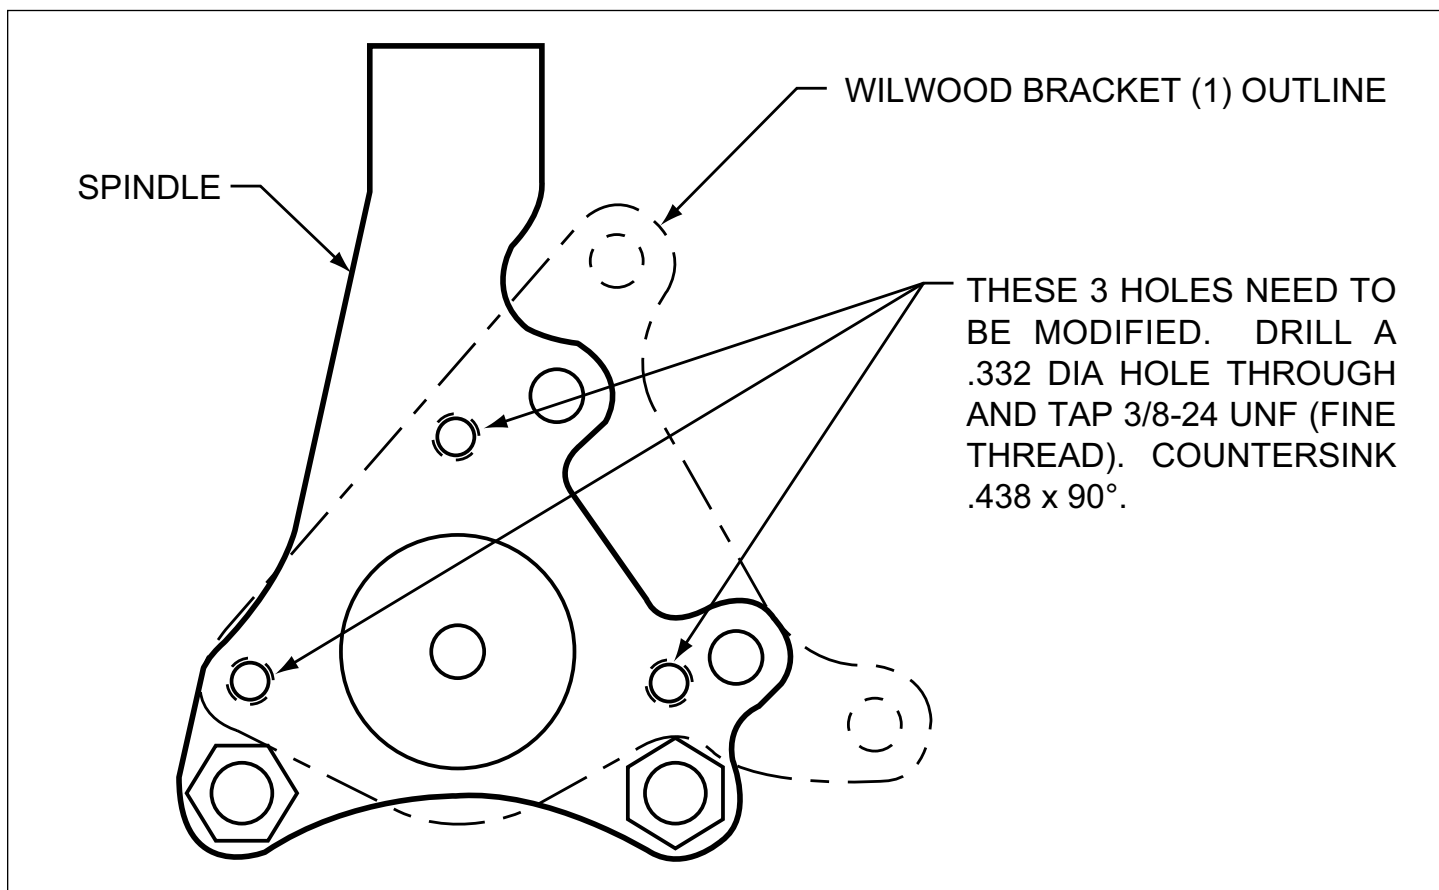

Figure 1. Steering Arm / Spindle Modifications
These modifications should be performed by a qualified machinist. Refer to Figure 1 as necessary (numbers in parenthesis refer to the parts list on page four). Only one view of the steering arm/spindle is shown, but the modifications need to be performed on both steering arm/spindles.
NOTE: Numbers in parenthesis refer to the parts list and Figure 1 on the preceding pages.
- Mount the adapter/rotor assembly (7/8) to the hub (4) using bolts (10) (finger tight), as shown in Figure 1. Using an alternating sequence, remove bolts one at a time, apply red *Loctite*® 271 to the threads, and torque to 45 ft-lb.
- Pack the small outer bearing cone (11) with high temperature disc brake bearing grease. Lightly coat the spindle bearing surfaces with bearing grease. Slide the hub/rotor assembly (4 and 8) with outer bearing cone (11) onto the spindle. Secure using spindle washer (12), existing adjusting nut and nut locking device.